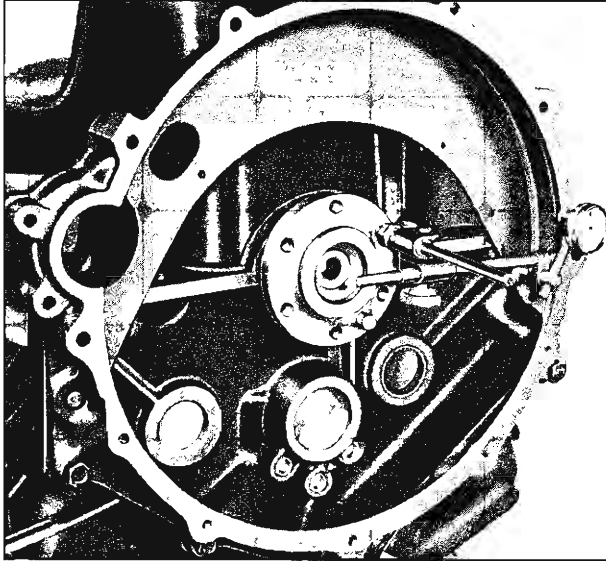

Fig. 181—Checking Face Runout (Powerglide)
- On Powerglide models only, reposition the dial indicator to read face runout and rotate crankshaft. On Powerglide models, .007" is the maximum allowable runout (fig. 181).